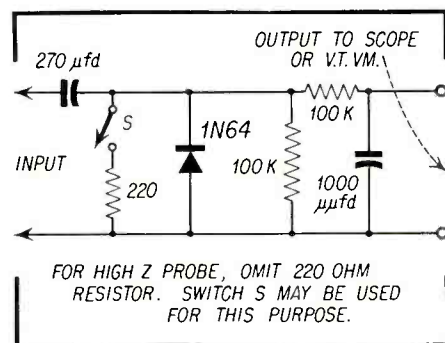

Fig. 11—Crystal diode probes—high frequency and low frequency.
8. Crystal diode probes—high frequency and low frequency (Fig. 11).